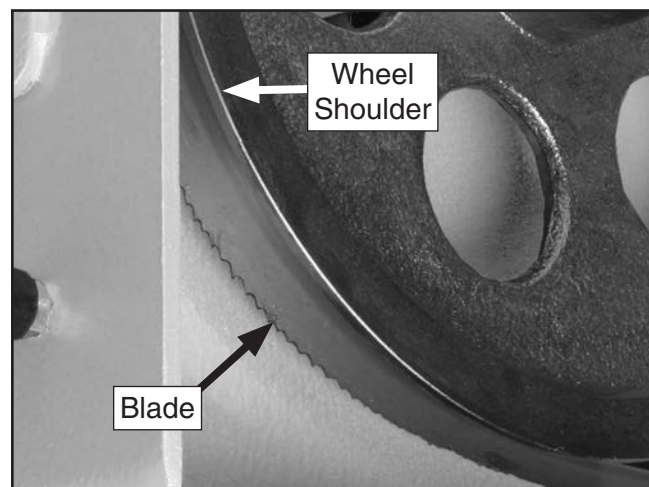

Figure 89. Location of wheel shoulder.
5. Slide end of a fingernail between back of blade and wheel shoulder (see **Figure 89**).